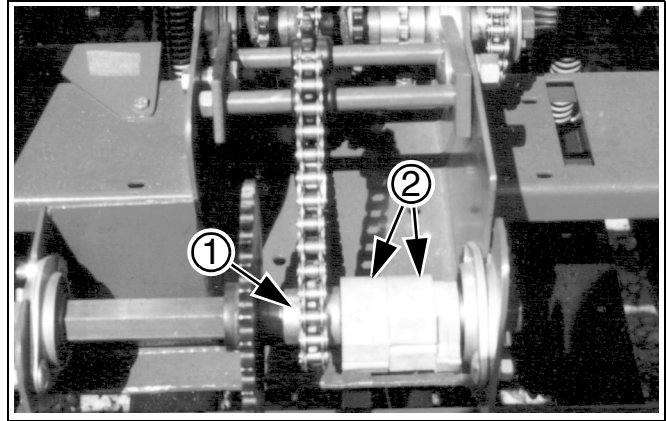

Figure 9
2. Refer to Figure 9. Rearrange sprocket (1) and plastic spacers (2) on front shaft so the proper front and rear sprockets are aligned according to drive type.